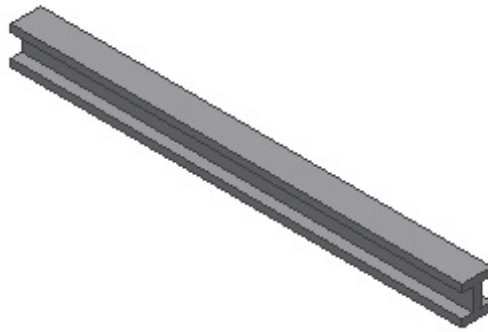
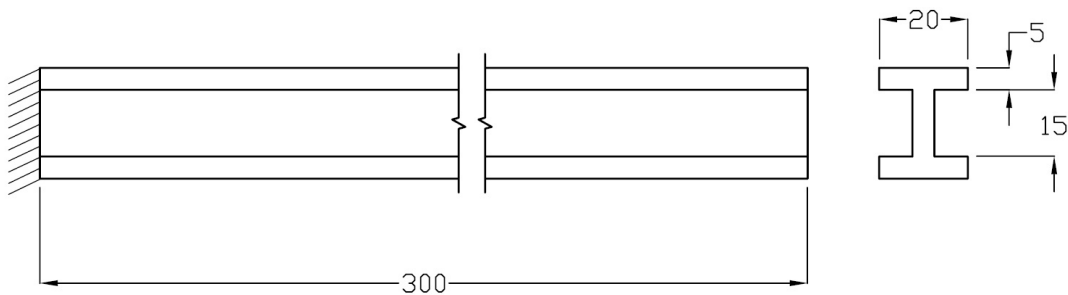

Figure 18-48 The I-Section beam
Figure 18-49 The dimensions and boundary conditions of the model
In this tutorial, you will analyze the effect of loads on an I-section beam of steel material, as shown in Figure 18-48. The dimensions and the boundary conditions of the I-Section are shown in Figure 18-49. It is fixed at one end and loaded on the other. Under the given load and constraints, generate the analysis report for stresses, strains, and deflections. **(Expected time: 45 min)**
3. Create an I-Section beam on YZ sketching plane and extrude it to 300. For dimensioning, refer to Figure 18-49 .